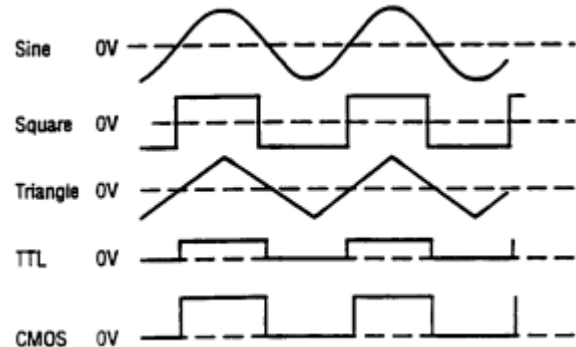

Figure 2. Output Waveform and Phase Relationship
1. Initially, verify that the **DUTY CYCLE** (2), **CMOS LEVEL** (3), **DC OFFSET** (4), **-20dB** (5), and **SWEEP EXT/INT** (22), and **AM/FM** (35) switches are in the released position. This will produce a symmetrical waveform unaffected by the sweep generator and other controls.
2. Plug the unit into an appropriate power source and turn it on by depressing the **POWER** switch (1).
3. Select the desired waveform (**SINE**, **SQUARE**, or **TRIANGLE**) by depressing one of the **FUNCTION** switches (9). Phase relationships of the waveforms are shown in Fig. 2.
4. Select the frequency of the waveform by depressing one of the **RANGE** switches (6). The output frequency is displayed, along with the appropriate measurement units. **KHz** or **Hz** (31), on the LED display.
5. Rotate the **COARSE** (28) frequency control to quickly set the output frequency to the approximate desired value. The **FINE** (26) frequency control can then be used to easily set the output to the specific desired value. The frequency selected is available at the **OUTPUT** jack (13). In addition, a digital signal, either **TTL** or **CMOS** is available at the **TTL/CMOS** jack (15) (refer to the “**TTL/CMOS OUTPUT**” section of this manual).